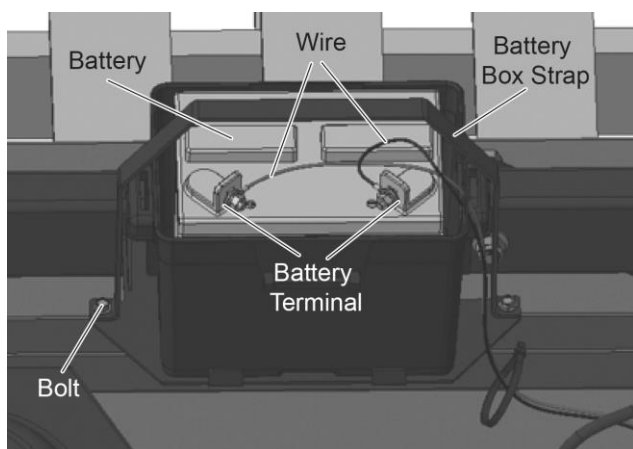

Figure 6
1. Remove Battery Box Strap and Bolts using 3/8 in Wrench (**Figure 6**).
3. Close Battery Box lid and re-secure the Battery Strap over the top of box with the previously removed hardware (**Figure 6**).